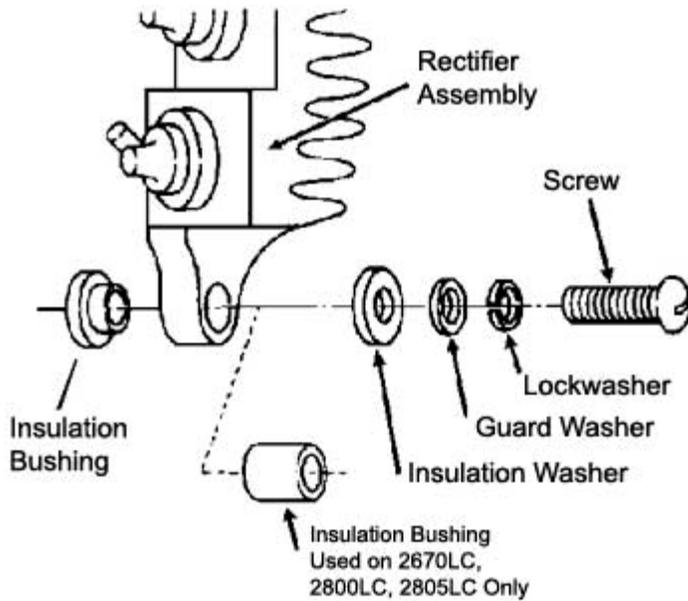

Figure 19
6.3 Apply 1-2 drops of Loctite #29014 to the threads of a 10-32 screw and install the bottom of the NEGATIVE rectifier assembly in the SRE housing. Install screw finger tight. See Figure 19 for proper installation of insulators.